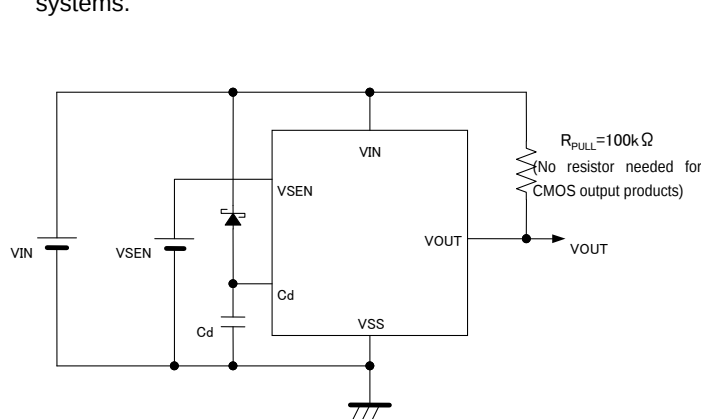

Figure 3: Circuit example with the delay capacitance pin (Cd) connected to a Schottky barrier diode
* The release delay time values above are calculated by using the formula (2).
6. When there is a possibility of which the power supply input pin voltage falls rapidly (e.g.: 6.0V to 0V) at release operation with the delay capacitance pin (Cd) connected to a capacitor, use a Schottky barrier diode connected between the V_{IN} pin and the Cd pin as the Figure 3 shown below.